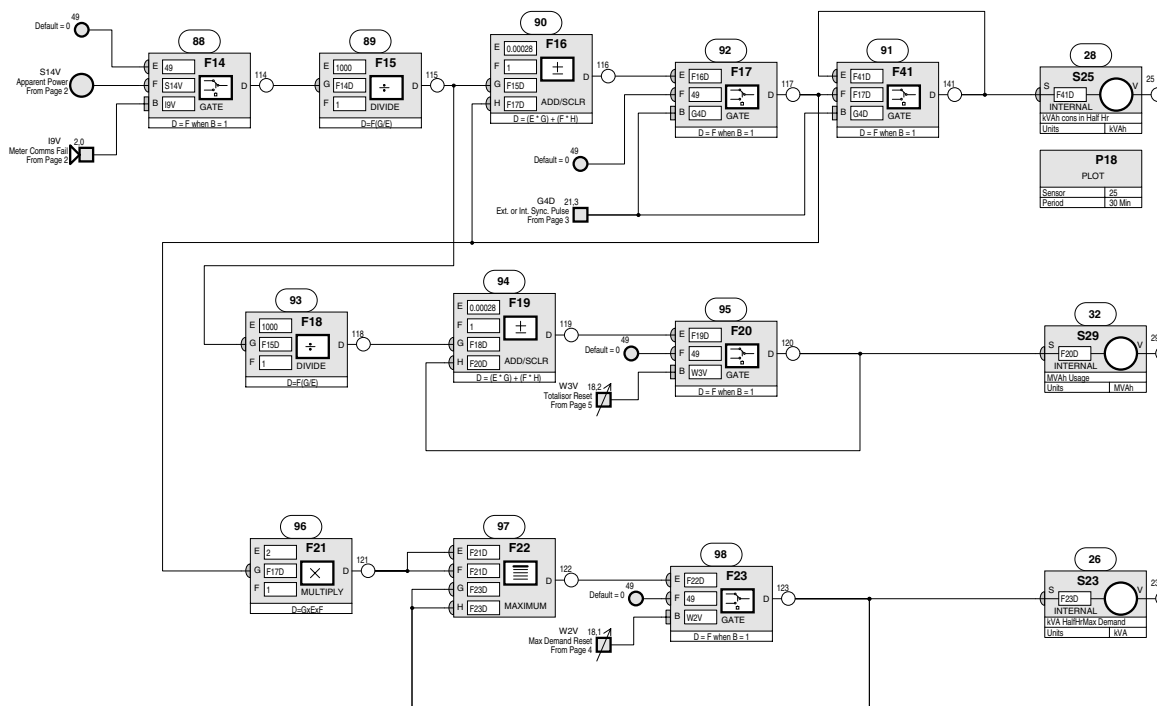

Fig 4. kVA Half Hour Maximum Demand
In Fig. 4, F14 will normally gate through S14, Apparent Power (VA), but if the meter communications fail, it will gate through zero. The active power is divided by 1000 by F15, and then multiplied by 0.00028 (divided by 3600 - correct to 5 places after decimal point) within F16. The division by 3600 is to convert the kVA value into kVAh consumed per second, and then F16 and F17 together add this in to the accumulating kVAh total every second. F41 is serviced before F17, so when the sync pulse occurs F41 passes the total through to S25, and F17 then passes through zero which clears the total for the start of the next period. The total, 'kVAh cons in Half Hr' is monitored by S25; it will only show the total accumulated before the last sync pulse.